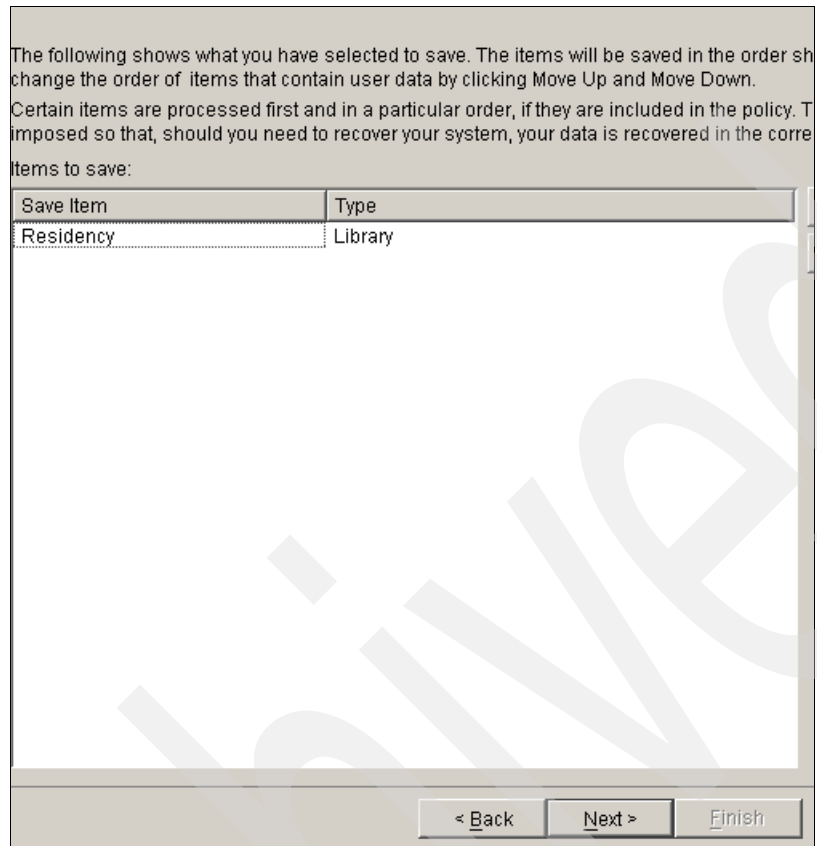

Figure 6-20 New Backup policy wizard - change or confirm save order
9. Next, the wizard prompts you to change or confirm the order in which selected objects are saved. Click **Next** to confirm it, as shown in Figure 6-20.